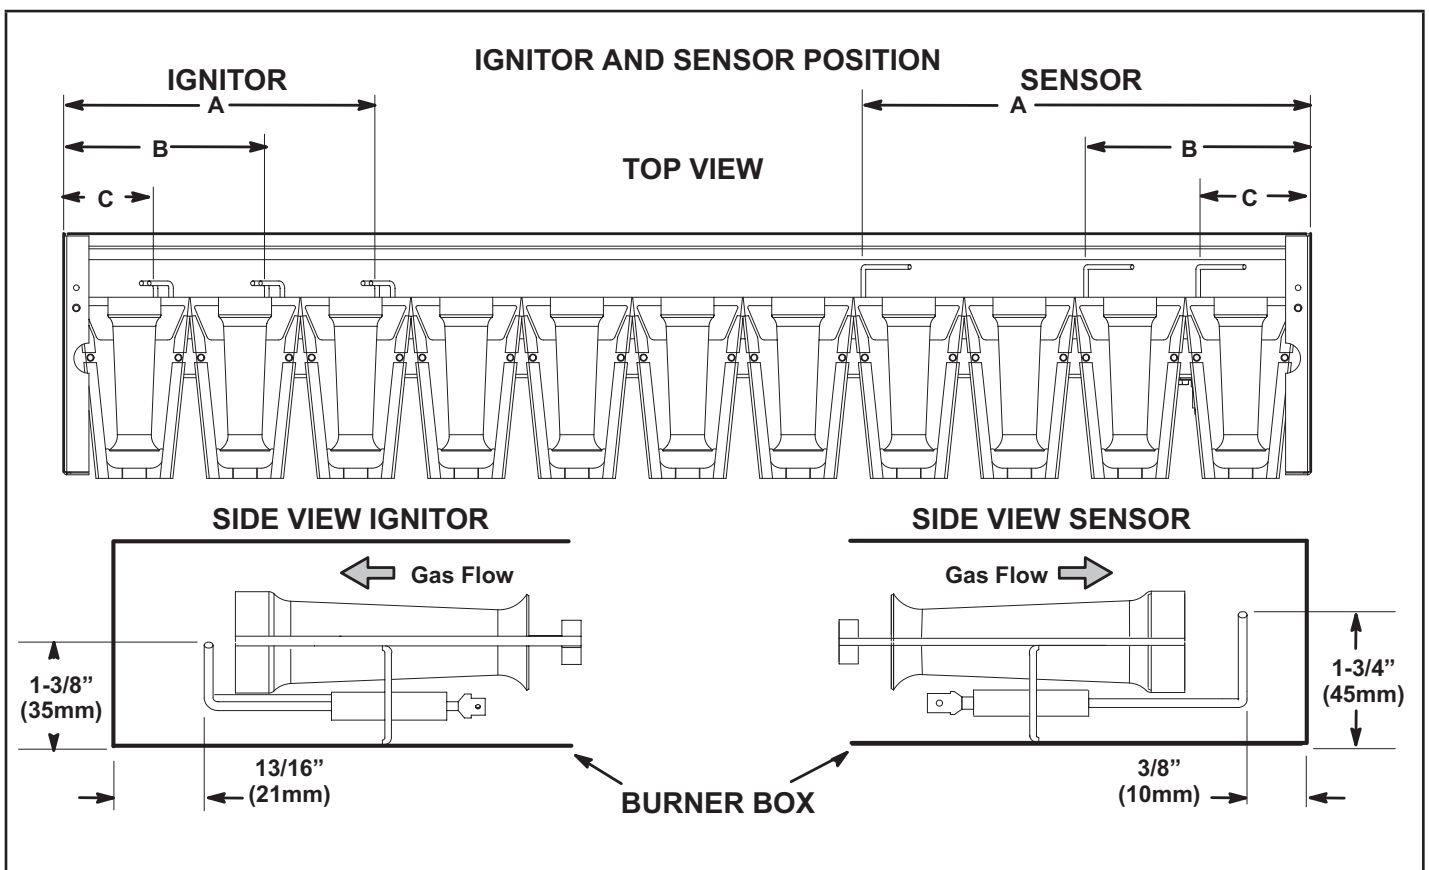

FIGURE 37
- 5 - Check the alignment of the ignitor and the sensor as shown in FIGURE 37 and TABLE 19.